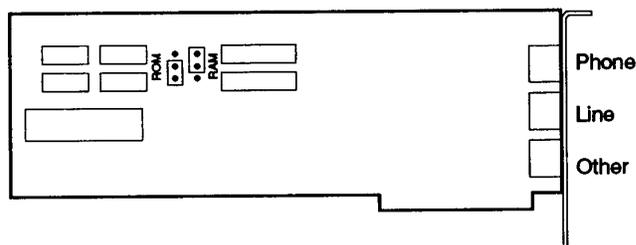

Figure A-23. Location of Jumpers on Modified DCP Board
1. Check the jumpers on the modified DCP board. The jumpers should be set as shown in Figure A-23.